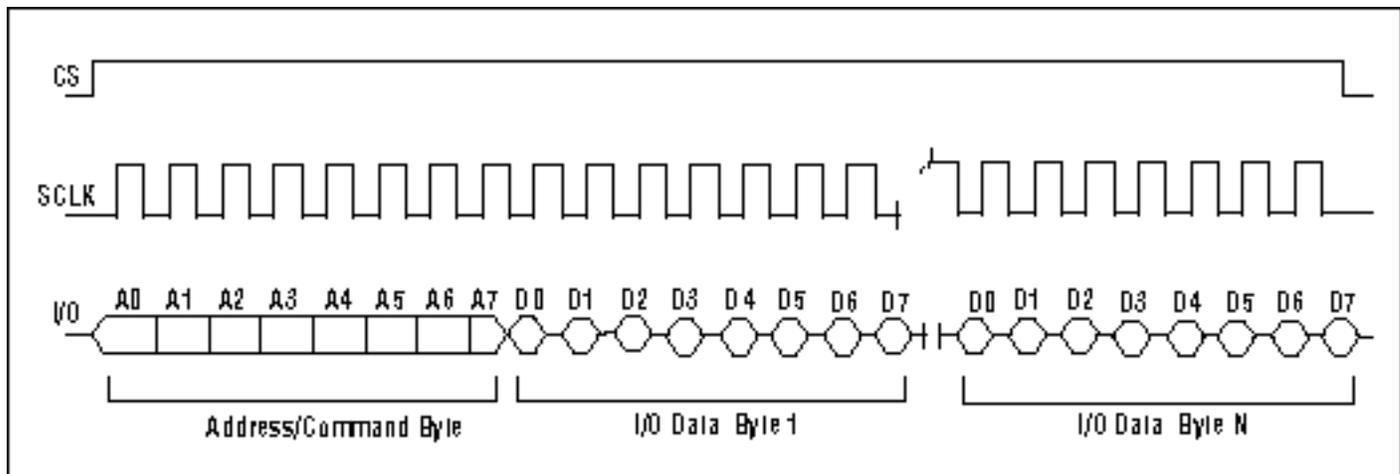

Figure 3. Burst read.
**Figure 3** depicts the Burst Read operation for the 3-wire serial interface. In this mode, several successive bytes of data are read from the RTC. A distinctive Address/Command Byte is written to the RTC to indicate a Burst Read transfer and the starting address of the data. Data in consecutive addresses beginning with the starting address is read as long as CS is high and SCLK is still clocking.